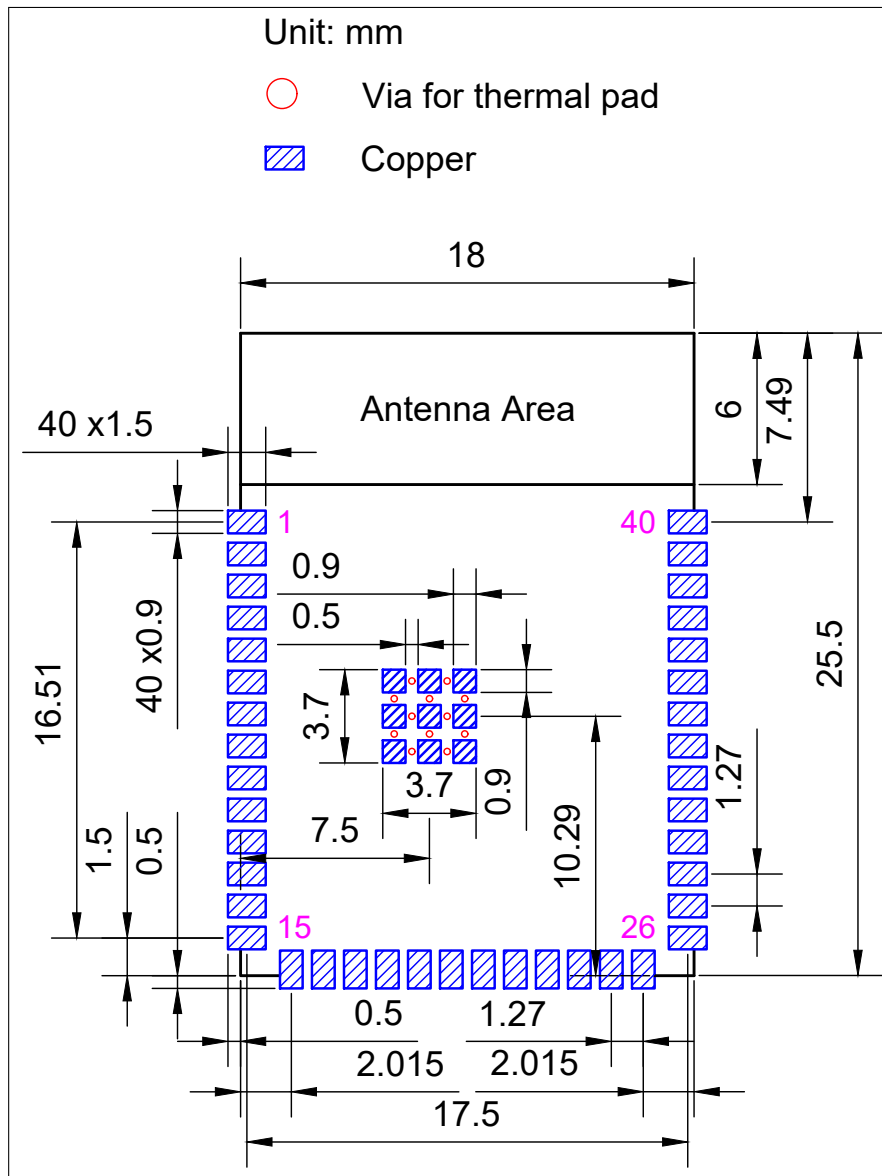

Figure 11: ESP32-S3-WROOM-1 Recommended PCB Land Pattern
- Figures for recommended PCB land patterns with all the dimensions needed for PCB design. See Figure 11 *ESP32-S3-WROOM-1 Recommended PCB Land Pattern* and Figure 12 *ESP32-S3-WROOM-1U Recommended PCB Land Pattern*.
- Source files of recommended PCB land patterns to measure dimensions not covered in Figure 11 and Figure 12. You can view the source files for ESP32-S3-WROOM-1 and ESP32-S3-WROOM-1U with Autodesk Viewer.